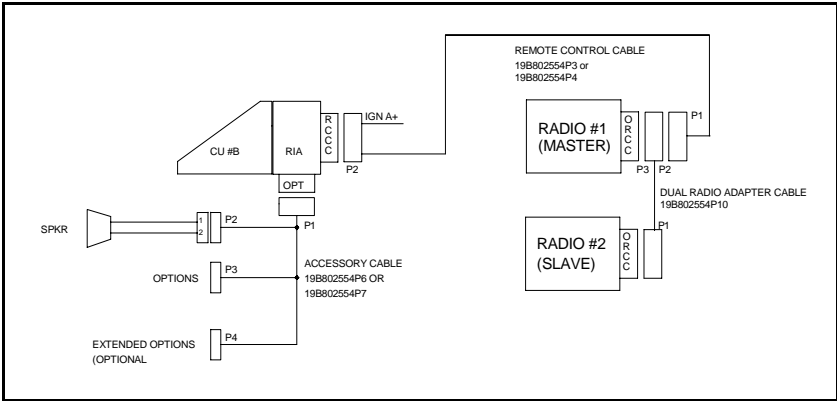

Figure 53: Orion Dual Radio Remote Mount Installation Configuration
1. Plan the mounting locations of the two radio units. Note that the maximum cable length allowed between the two radios is two meters. Referring to Figure 53 and Figure 54, run Dual Radio cable (19B802554P10 or CA101288V10) between locations for Master and Slave radio units. Be sure to locate the P2/P3 connector assembly at the Master radio unit.